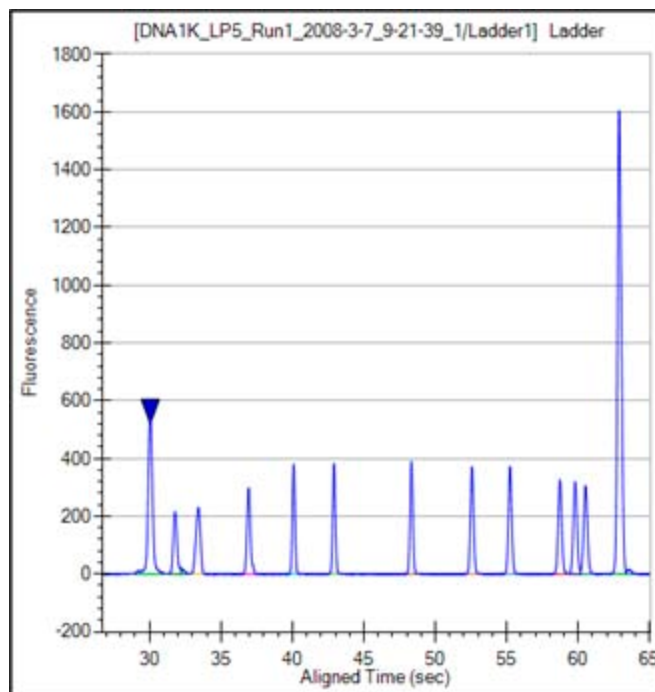

Figure 5. Ladder Graph - DNA
- 4 A sizing ladder (see Figure 5), which is a mixture of DNA fragments of different known sizes, is run first from the ladder vial. The concentrations and sizes of the individual base pairs are preset in the assay and cannot be changed.